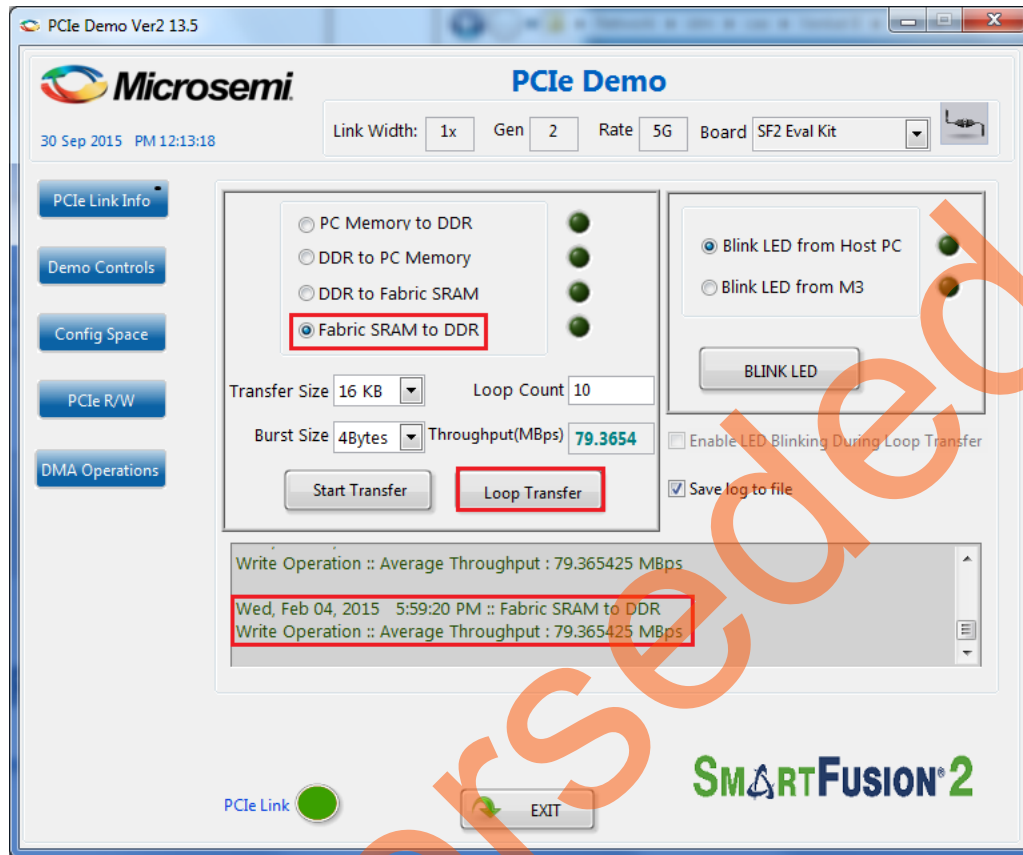

Figure 21 • Fabric SRAM to LPDDR Transfer Throughput
10. Select the type of DMA transfer as **Fabric SRAM to LPDDR**, select any **Transfer Size** and click **Loop Transfer** as shown in Figure 21.